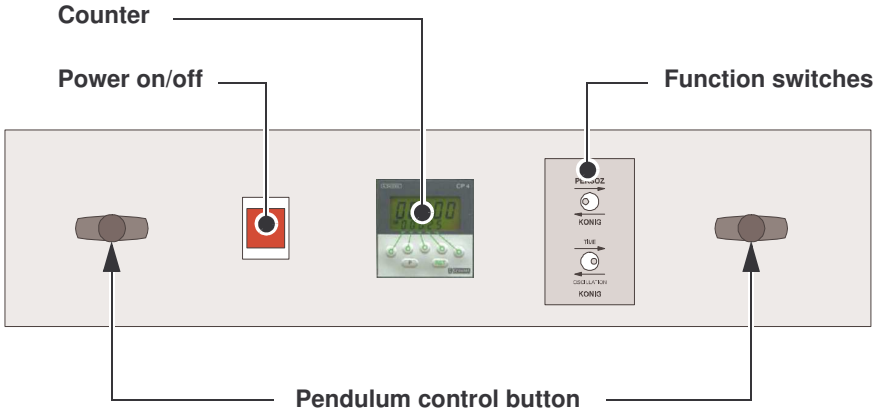

Figure 2. Control panel (Elcometer 3034 Persoz and König model shown)
Your Elcometer Pendulum Hardness Tester is very simple to operate. All the controls are located on the front panel of the tester (Figure 2).
**Note:** The control panel layout depends upon the model of pendulum hardness tester. Not all the controls shown in Figure 2 may be fitted to your instrument.